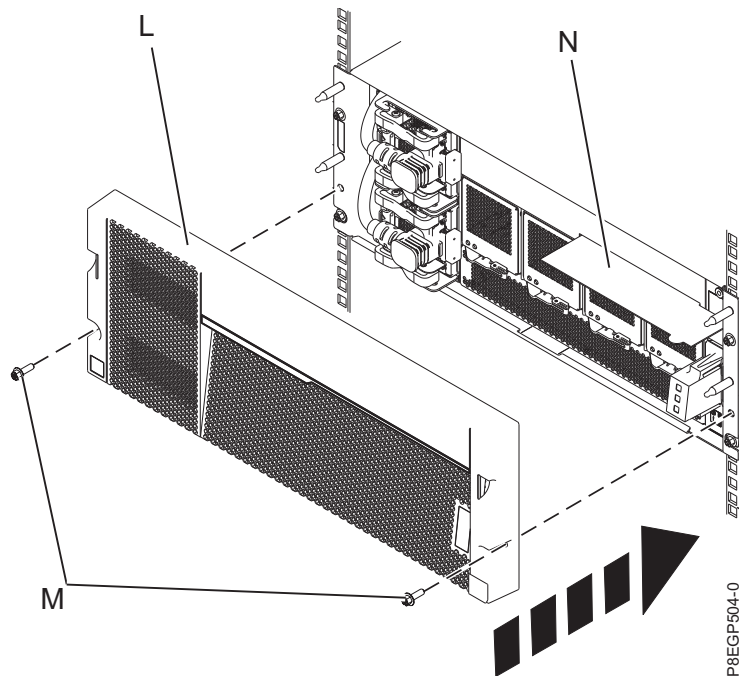

Figure 10. Installing the cover and service information card
- Install the cover **(L)** onto the drawer. Press the cover into place and secure it with two M5 screws **(M)** on the left and right rails. See Figure 10 on page 13.